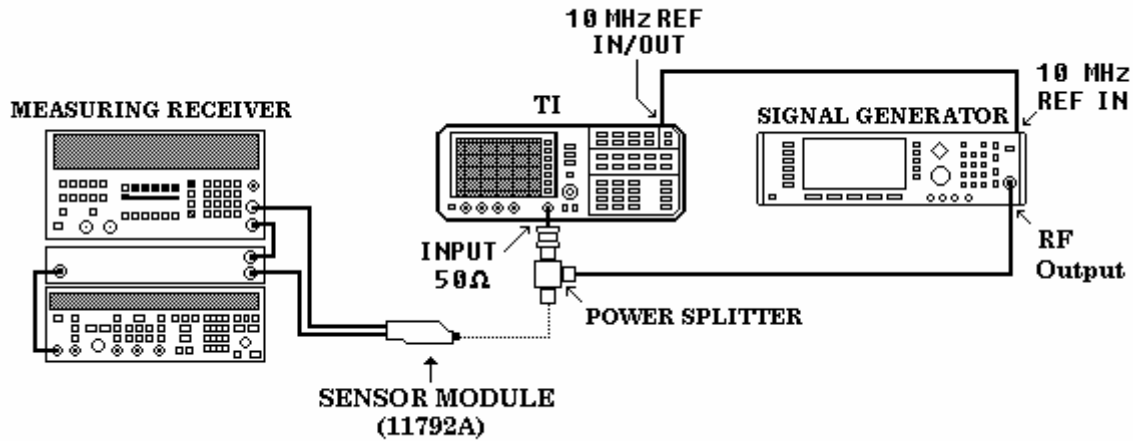

Figure 5. Frequency response - equipment setup.
(1) Connect equipment as shown in figure 5.